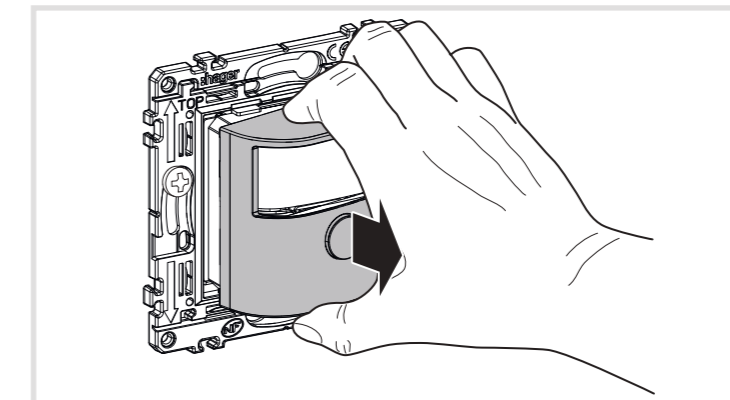

Figure 8: Dismantling of cover
- Remove cover by Hand. (Figure 8).